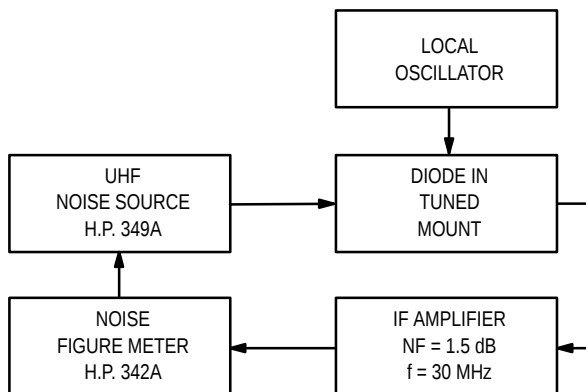

Figure 5. Noise Figure Test Circuit
- Note 2—Noise figure measured with diode under test in tuned diode mount using UHF noise source and local oscillator (LO) frequency of 1.0 GHz. The LO power is adjusted for 1.0 mW. IF amplifier NF = 1.5 dB, $f = 30$ MHz, see Figure 5.